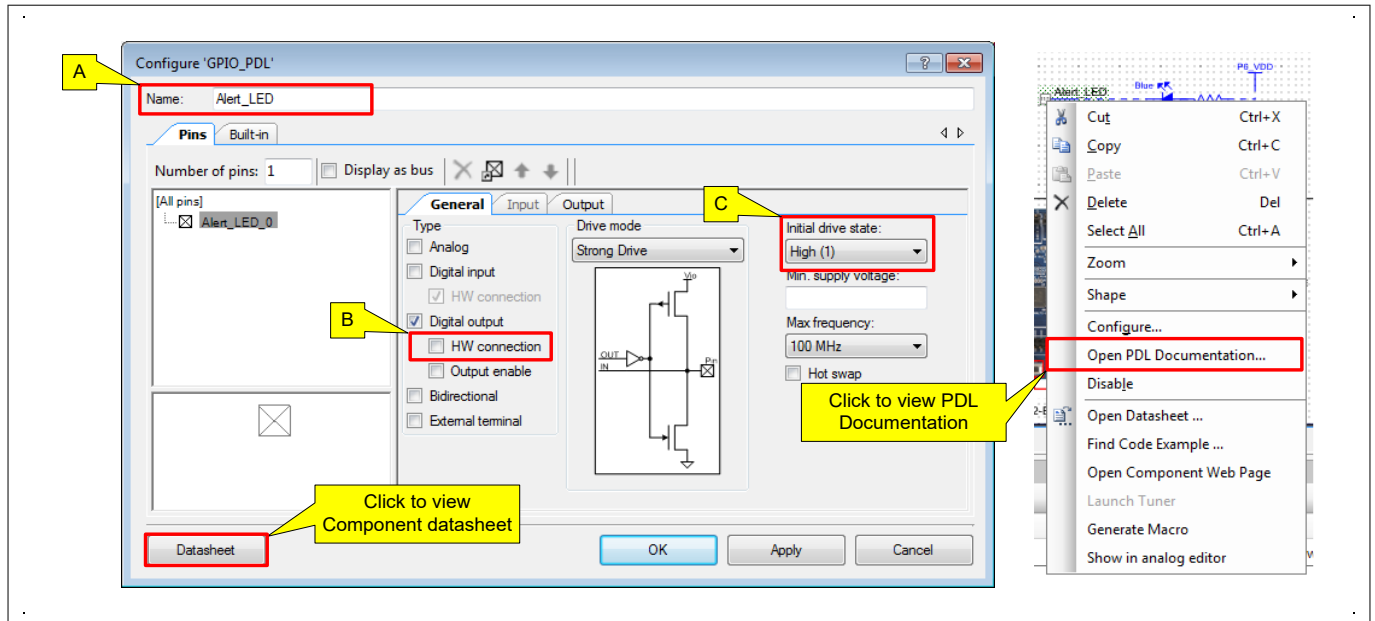

Figure 22 Configuring an output pin component
All three pins are configured identically, except for the name. Repeat these instructions three times, once for each pin. Figure 22 shows the configuration.
- Tip:** You can open the API reference document of associated PDL driver of a Component by right-clicking the component and clicking the **Open PDL Documentation...** link. See Figure 22.